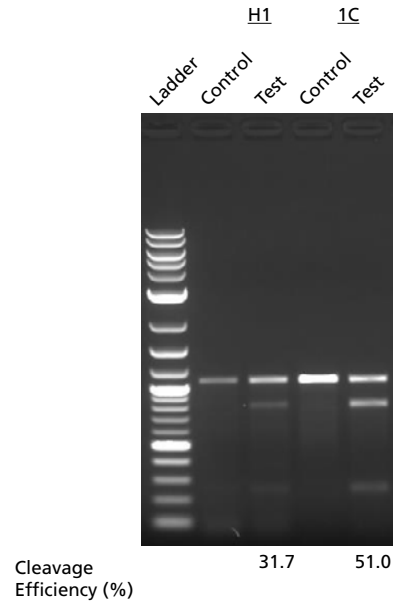

Figure 3. INDEL Detection by T7 Endonuclease I Assay
11. Culture cells for 48 - 72 hours after transfection to allow genome editing to occur. Assess genome editing efficiency by T7 Endonuclease I Assay (see Figure 3). The cells can then be used to generate clonal ES or iPS cell lines and assess genome editing by T7 Endonuclease I assay and/or DNA sequencing. Refer to the CloneR™ Product Information Sheet (Document #DX21725) for instructions on subcloning ES or iPS cell lines.